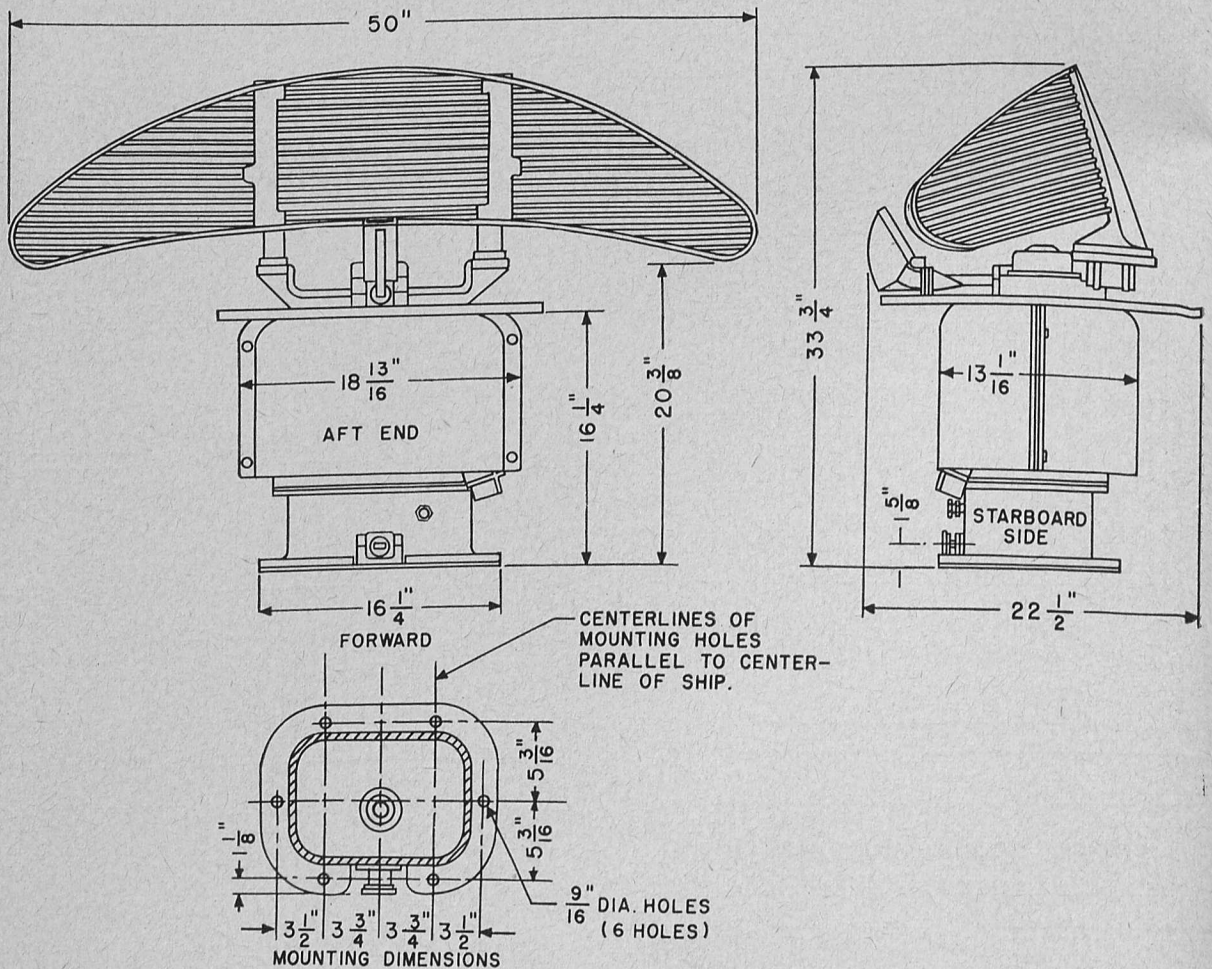

Figure 27. Antenna, dimensional drawing.
brackets the two dowel pins (fig. 3) of the rotating head. (Also refer to figs. 27 and 28.)
- (1) Select the mounting base for the antenna pedestal.
- (2) Drill six $\frac{1}{16}$ -inch holes through the selected mounting base. (See fig. 27 for the location and spacing of these holes.)